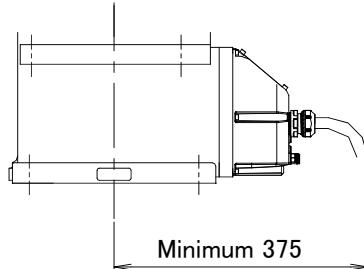

Fig.2-33 : Fixing the flexible cable
(1) Connect the connector to the robot arm.
(2) Wind the silicon rubber around the cable at a position 300 to 400 mm from the side of robot arm and drive unit as shown in Fig. 2-33, and fix with the nylon clamp to protect the cable from external stress.